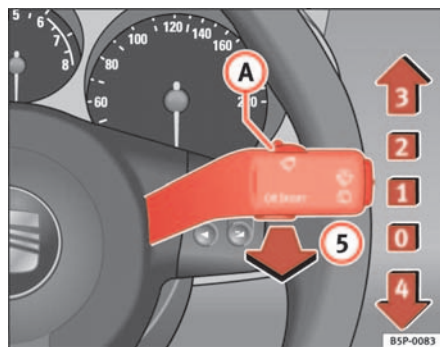

Fig. 86 Windscreen wiper and windscreen wash lever
The windscreen wiper lever ⇒ fig. 86 has the following positions:
- The next speed down will automatically be selected if wiper speed ② ⇒ page 118, fig. 86 or ③ is selected when the vehicle stops. The set speed will be resumed when the vehicle starts again